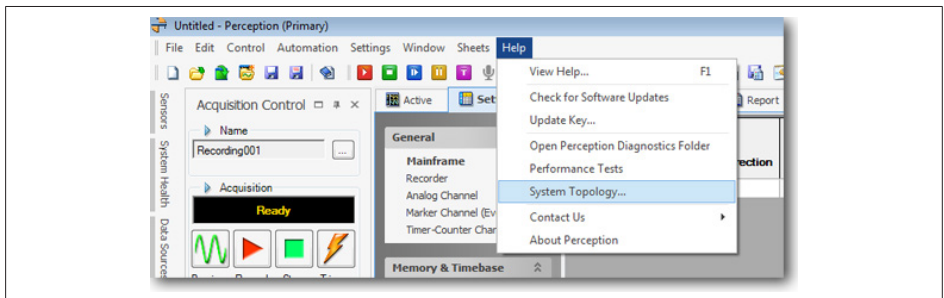

Fig. 15.45 System Topology Help
1. In the menu bar choose **Help ► System Topology** (see Fig. 15.45).